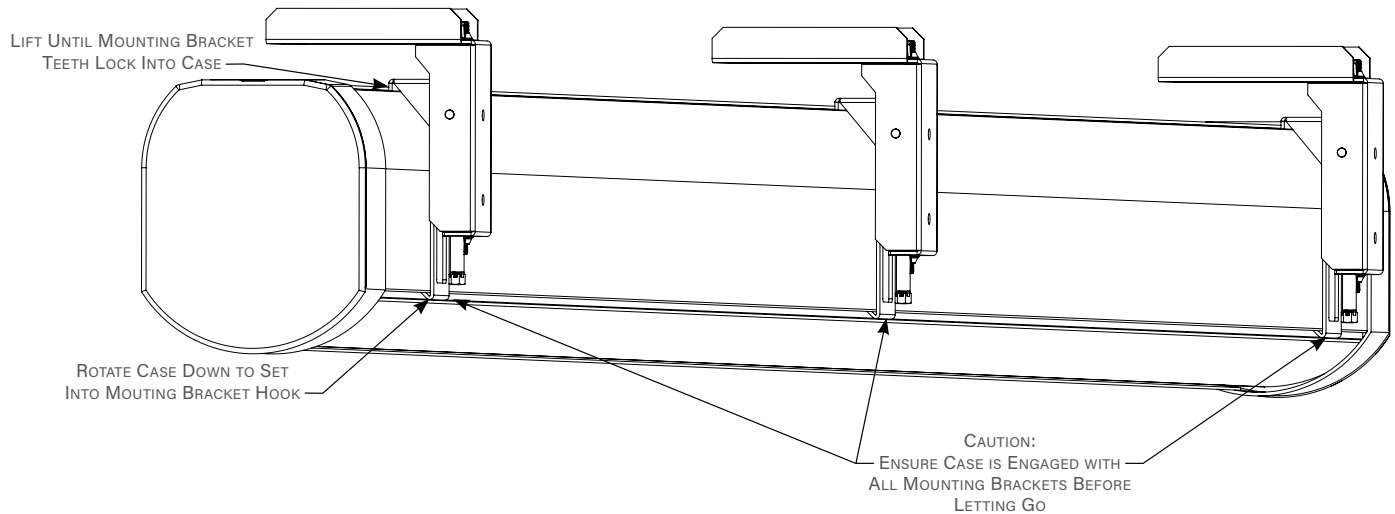

Figure 5
8. Rotate the case down to set into the mounting bracket hook (Figure 5).